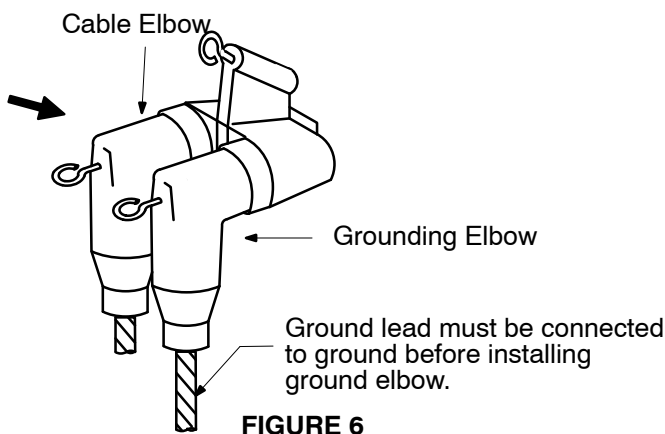

FIGURE 6
6. After circuit has been tested "Dead", remove test rod and using shotgun tool immediately insert the grounding elbow into the feed-thru bushing. See Figure 6.